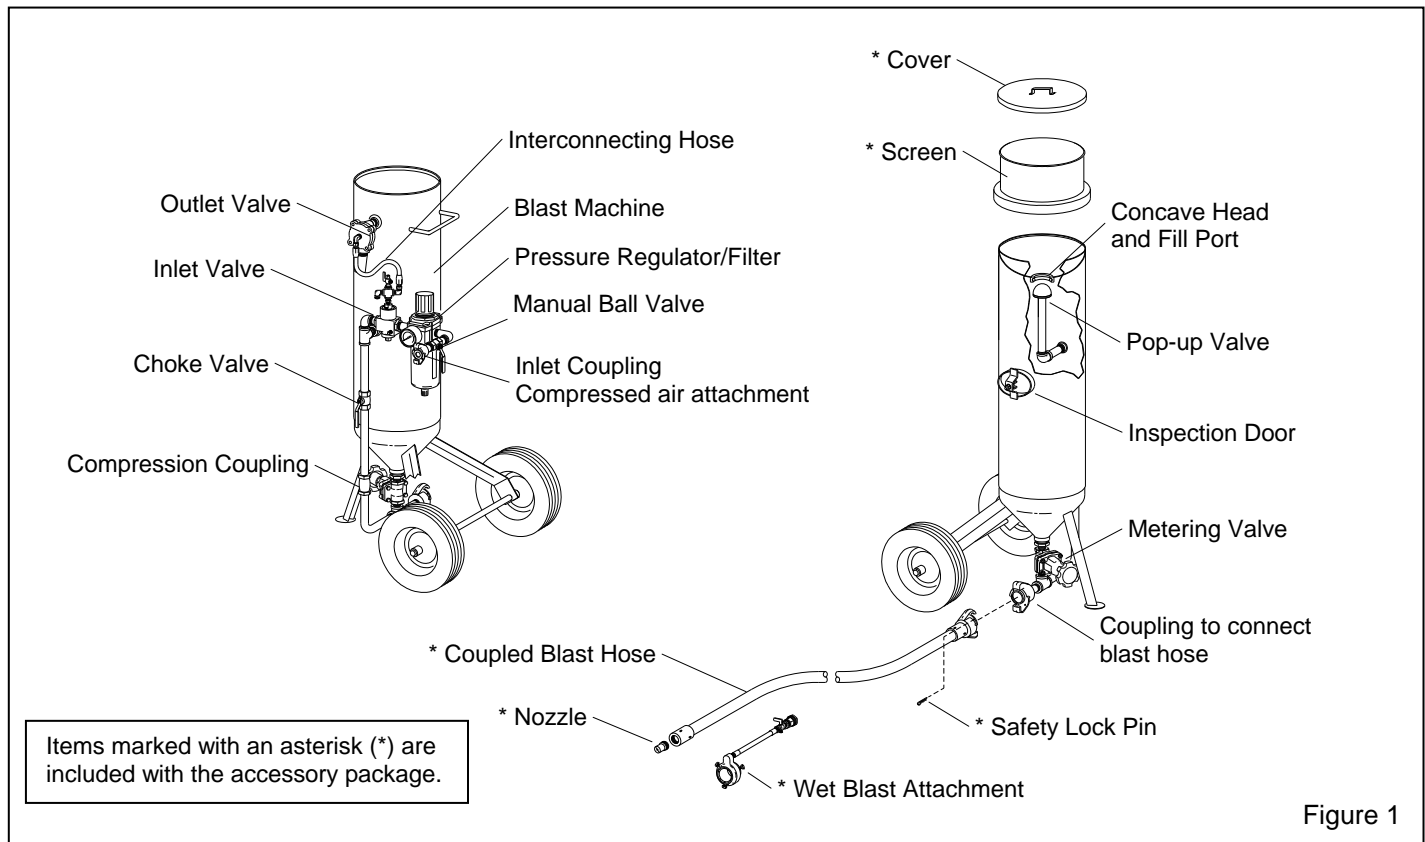
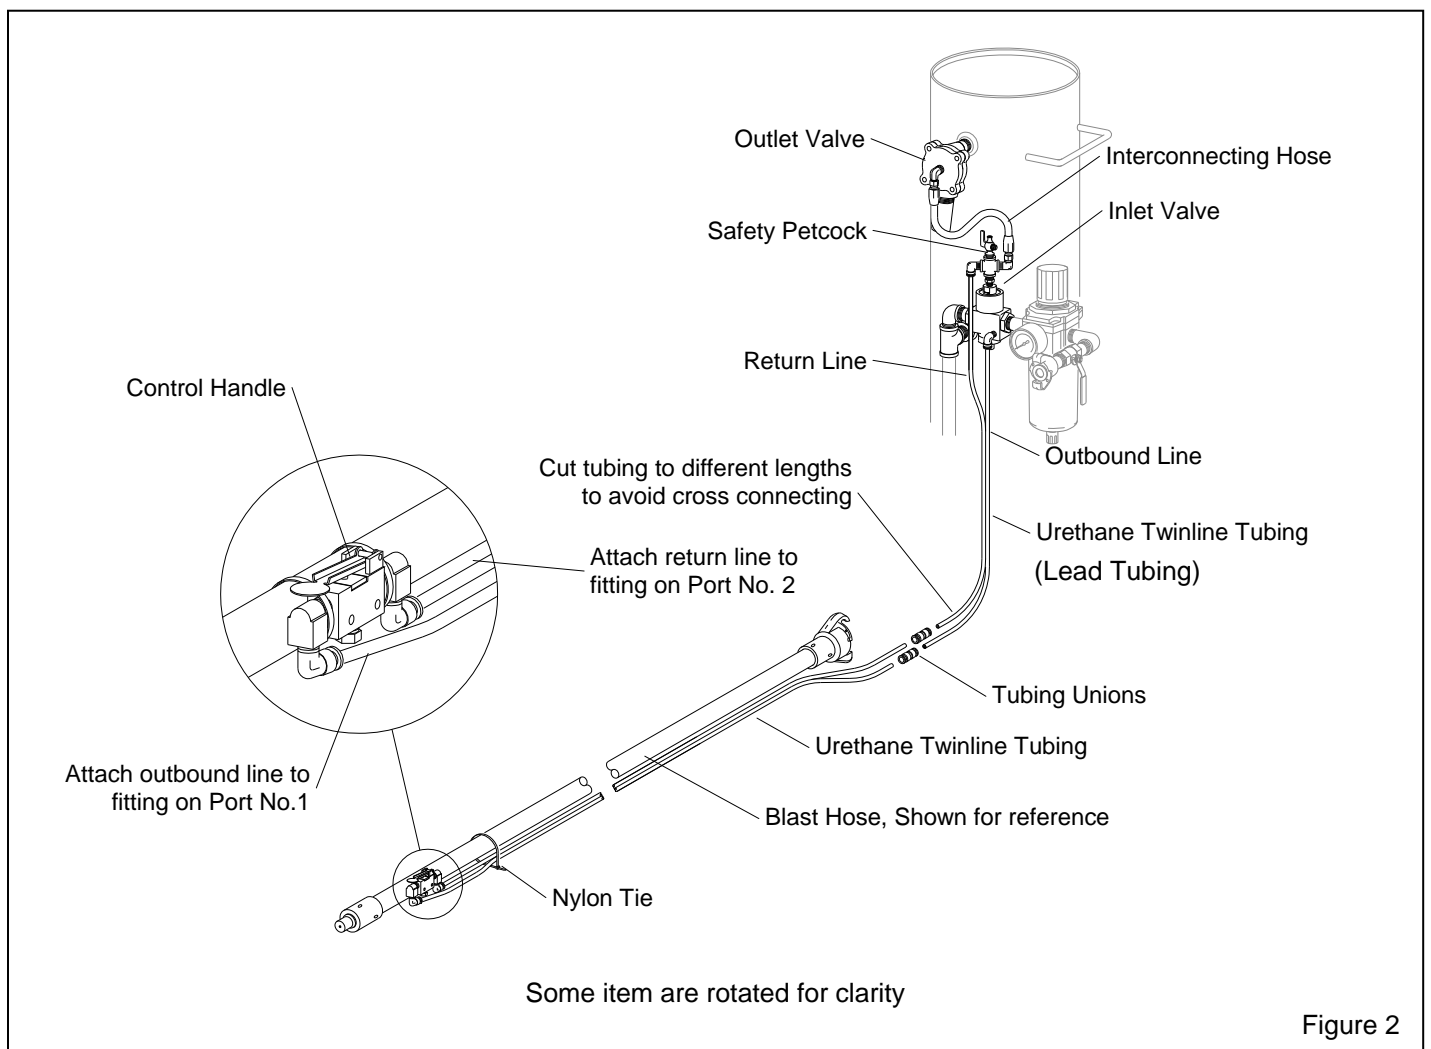

Figure 1
Figure 2
1.3.1 The set-up and primary components of the blast machine and accessory package are shown in Figure 1. The remote controls and connections for the controls are shown in Figure 2.
1.3.6.3 The components of the remote control system are shown in Figure 2. The controls include the inlet valve, diaphragm outlet valve, an 18-inch long interconnecting hose, control handle, 21-foot long urethane twinline control tubing, tubing unions, and nylon ties.
1.3.6.4 Clemco remote controls operate pneumatically on return air. If the control handle lever (the activator for the remote control system) is in the up (no blast) position, one stream of air travels down the outbound twinline (See Figure 2) and stops at the control handle. The normally-closed inlet valve remains closed, and the normally-open outlet valve remains open. As long as the control handle lever remains up, the remote control system is inactive. When the lever is pressed, air from the outbound line returns through the return line to open the inlet valve and close the outlet valve. This action pressurizes the blast machine and begins the blasting. Releasing the handle exhausts the control air, which closes the inlet valve and opens the outlet valve, which depressurizes the blast machine and stops the blasting.
2.1.2.7 Carefully trace the lines; leaving slack in both sides of the tubing, cut the ends at different lengths as shown in Figure 2. Make sure the outbound line (the lower elbow on the inlet valve) connects to Port No. 1 on the control handle, and the return line (upper elbow on the inlet) connects to port NO. 2 on the control handle, as shown in Figure 2.